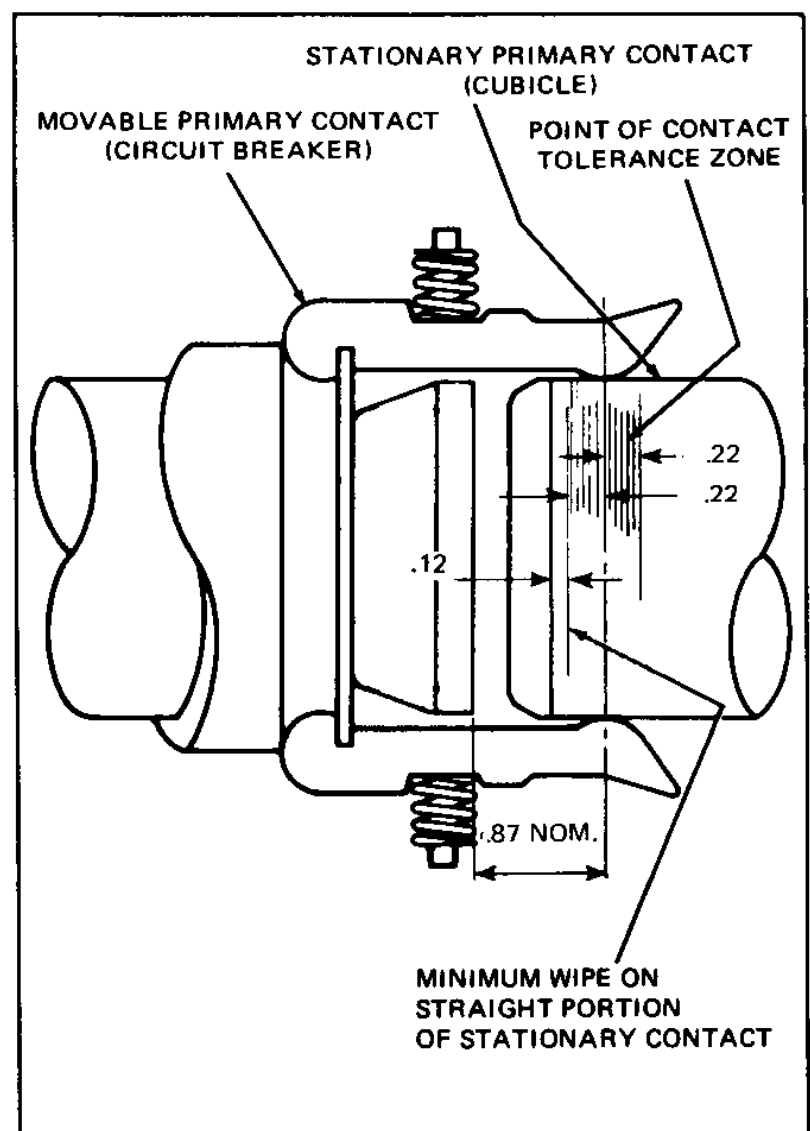

Figure 75. Primary Contact Engagement.
7. Remove breaker from cubicle and check the length of engagement of the primary contact fingers over the straight portion of the contact surface on the stationary contact. The contact point of the fingers must have a minimum wipe of .12 inch over the straight portion of the stationary contacts (Figure 75). This can be observed by opening shutters and with a flashlight note the polish marks on the stationary contacts. Remove excess grease from contact fingers.